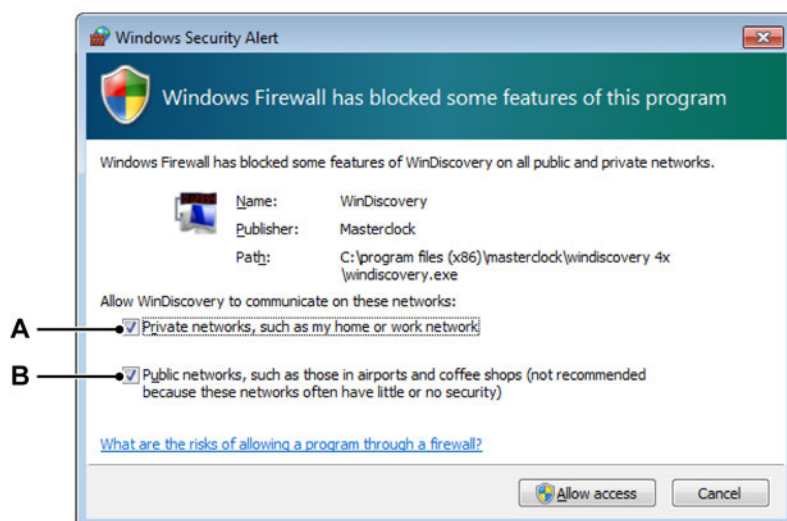

Figure 14.70: Windows® Security Alert settings
- 1A** The first time WinDiscovery is started, Windows® may show the firewall configuration window. Select both options as shown in Figure 14.70 and confirm with **Allow access** button.